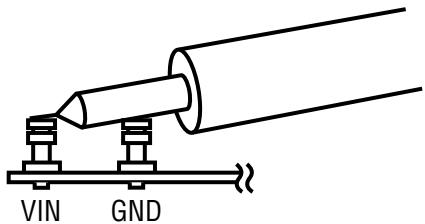

Figure 2. Measuring Input or Output Ripple
Note: When measuring the input or output voltage ripple, care must be taken to avoid a long ground lead on the oscilloscope probe. Measure the input or output voltage ripple by touching the probe tip directly across the V_{IN} or V_{OUT} and GND terminals. See the proper scope probe technique in Figure 2.
5. Set the load current of both outputs to 600mA and the input voltages to 12V, and then measure each output ripple voltage (refer to Figure 2 for proper measurement technique); they should each measure less than 20mVAC. Also, observe the voltage waveform at either switch node (Pin 5 for reg.1 and Pin 8 for reg.2) of each regulator. The switching frequencies should be about 2.25MHz $\pm 20\%$ ($T = 555$ ns and 370ns). Both switch node waveforms should be rectangular in shape, and 180° out-of-phase with each other.